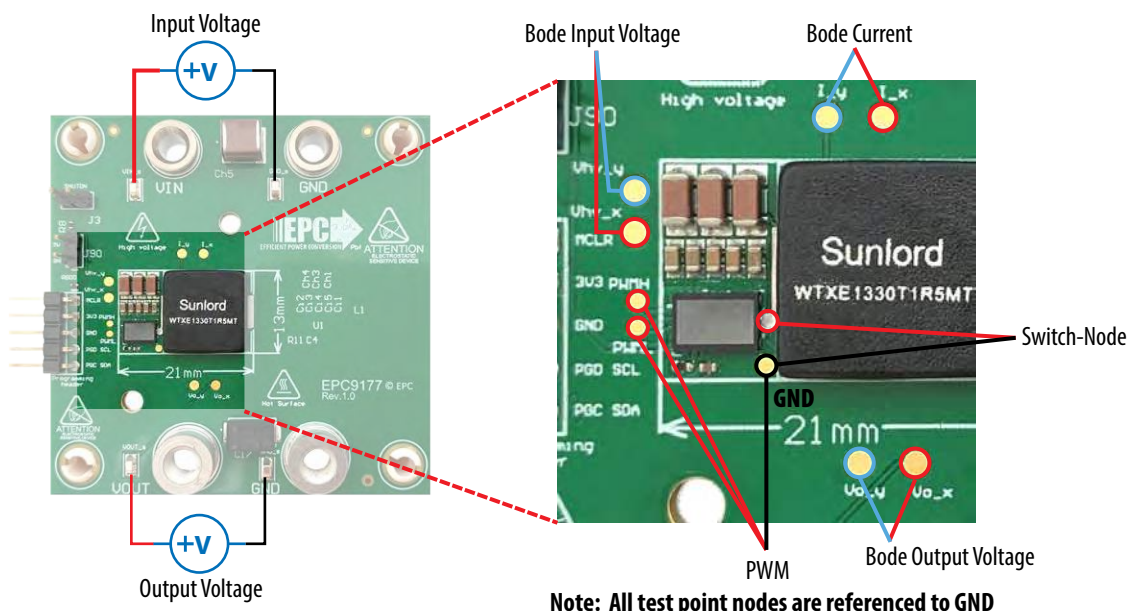

Figure 6: EPC9177 test point pad and hookup locations and designations
Figure 6 shows the various measurement connections of the EPC9177 demonstration board.
5. With power off, connect the various measurement probes as shown in figure 6 and 7.